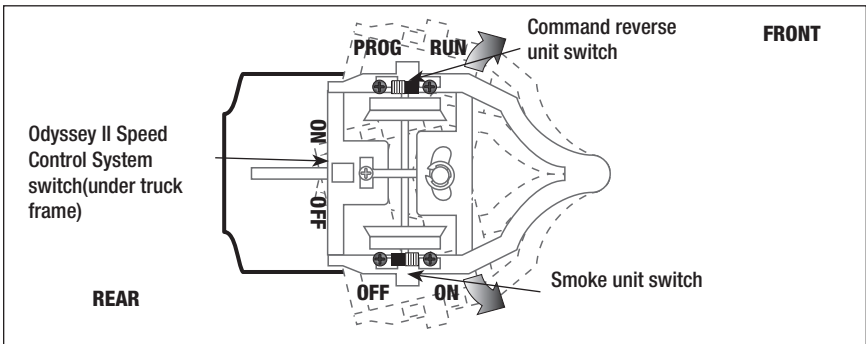

Figure 3. Switch locations
1. Slide the Command reverse unit switch on your locomotive to the PROG position. See Figure 3 on page 11.